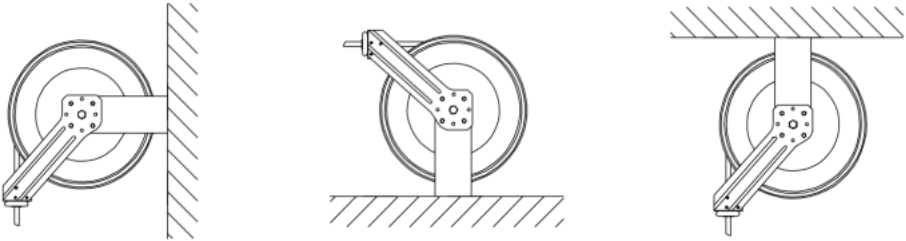

Fig. 1
- b) The reel is supplied with a hose guide roller bracket. The bracket's position can be changed depending on the reel mounting position. Figure 1 shows typical mounting positions. To change the bracket position, follow these steps:
- (1) Pull out some hose and let the reel latch.
- (2) Remove the bolts that attach the guide roller bracket to the support post.
- (3) Rotate the guide roller bracket to the correct position, replace the bolts, and tighten securely.